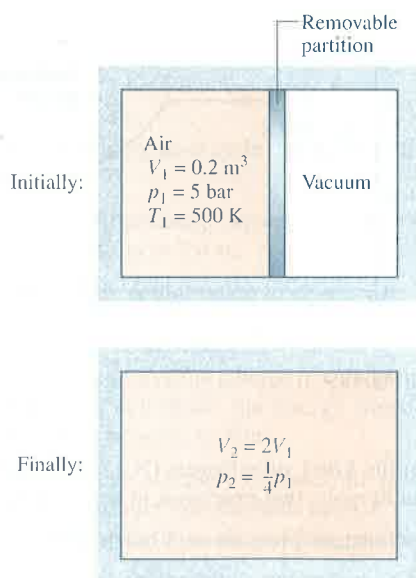

Fig. P3.130
- 3.130** Air is confined to one side of a rigid container divided by a partition, as shown in Fig. P3.130. The other side is initially evacuated. The air is initially at $p_1 = 5$ bar, $T_1 = 500$ K, and $V_1 = 0.2$ m³. When the partition is removed, the air expands to fill the entire chamber. Measurements show that $V_2 = 2V_1$ and $p_2 = p_1/4$. Assuming the air behaves as an ideal gas, determine (a) the final temperature, in K, and (b) the heat transfer, in kJ.